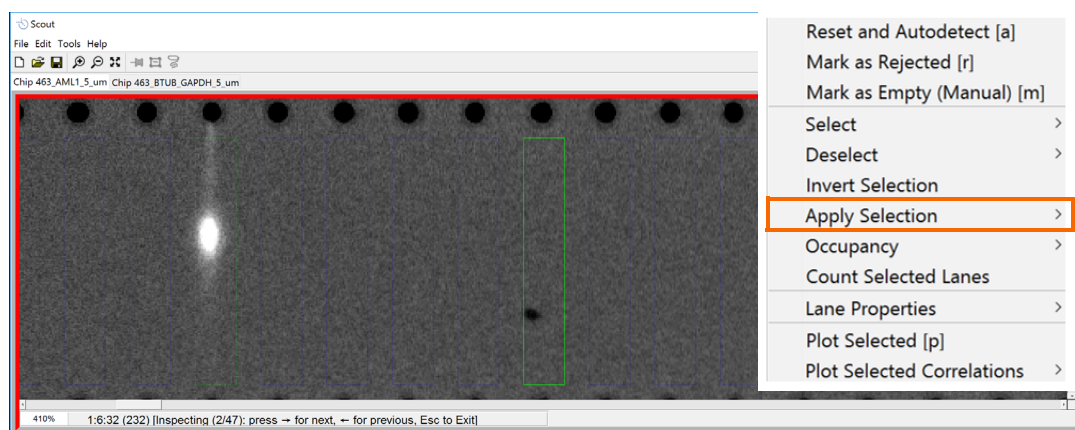

Figure 4-30: Inspecting lanes.
4. On the scan image, select **Tools > Inspect > Inspect selected lanes or [i]**. You can toggle through lanes containing selected peaks using the left and right arrows (Figure 4-30).
5. If a peak is noise, select it in the Peak Table by right clicking on the lane, using **Apply Selection > select on peak table** (or [s]) (Figure 4-30). Then tag the selected peaks in the peak table with the correct tag as described earlier. If peak is real, don't select it in the Peak Table.